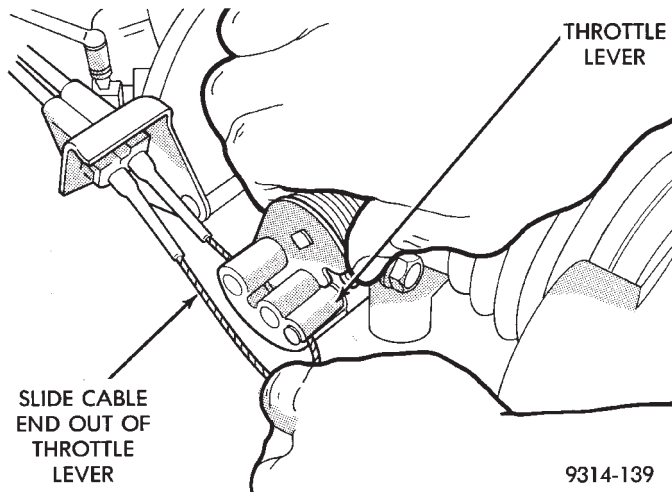

Fig. 5 Removing Throttle Cable and Speed Control Cable
- (3) Rotate throttle lever to wide open throttle position and remove throttle cable and speed control cable (Fig. 5).